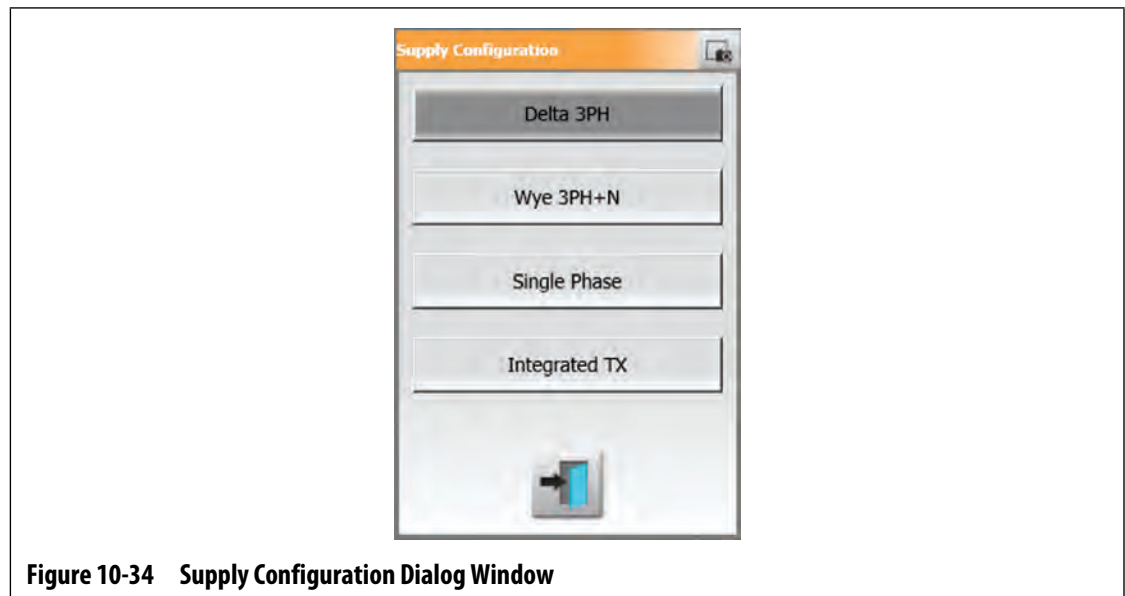

Figure 10-34 Supply Configuration Dialog Window
4. Touch the correct supply configuration on the Supply Configuration dialog window. Refer to Figure 10-34.